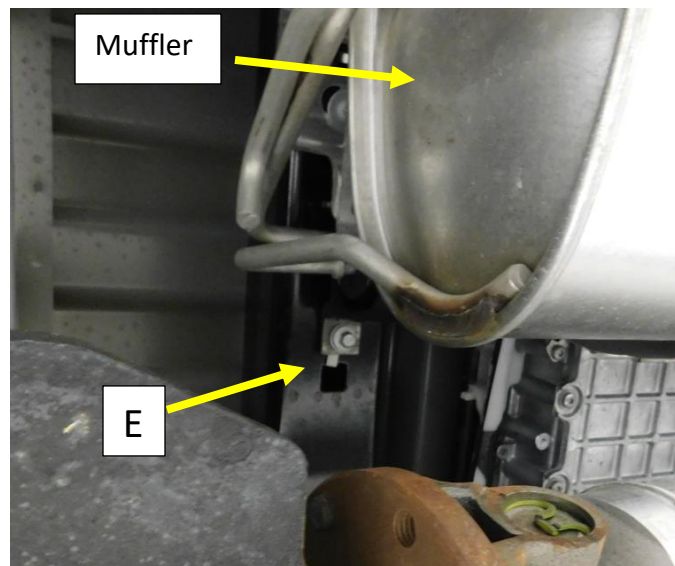

Figure.3
6. Remove the x3 Bolts at the frame hanger (C) and the x1 bolt at the muffler hanger (E). **Fig.3**